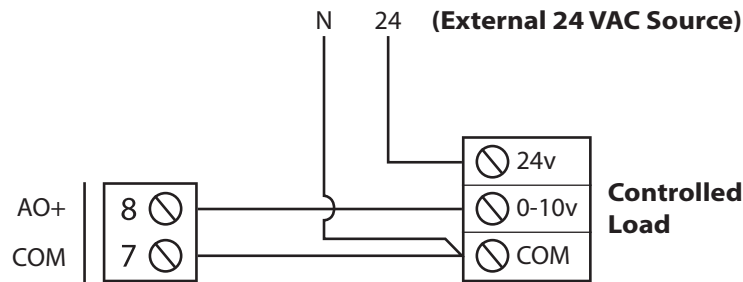

Figure 13 - Connecting the analog output (external power)
- 3) The VC2000 only provides the control signal to the load, which is powered by an external source (see figure 13). The common of the external source must be connected to the common of the VC2000.